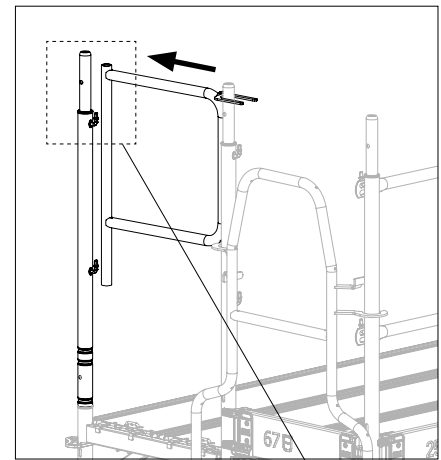

Fig. A3.14
2. Attach both slots (54.2) to the guardrail hooks. (Fig. A3.14)